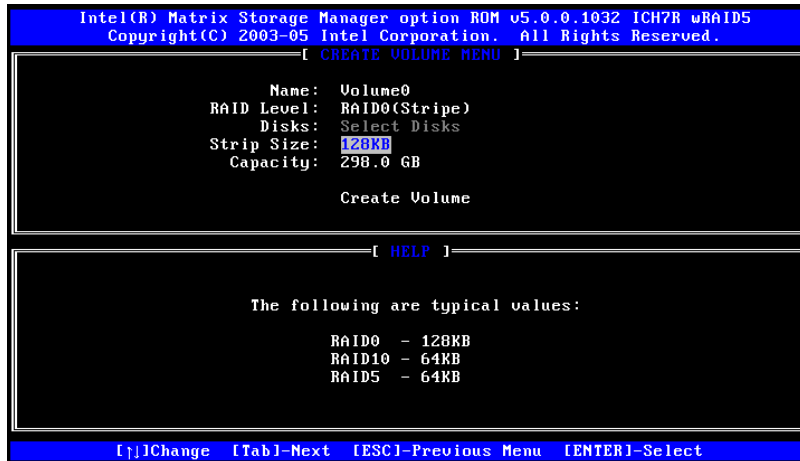

Figure G-4: Select the Stripe Size
Step 4: Select the Stripe Size. Select a stripe size from the list. See Figure G-4.